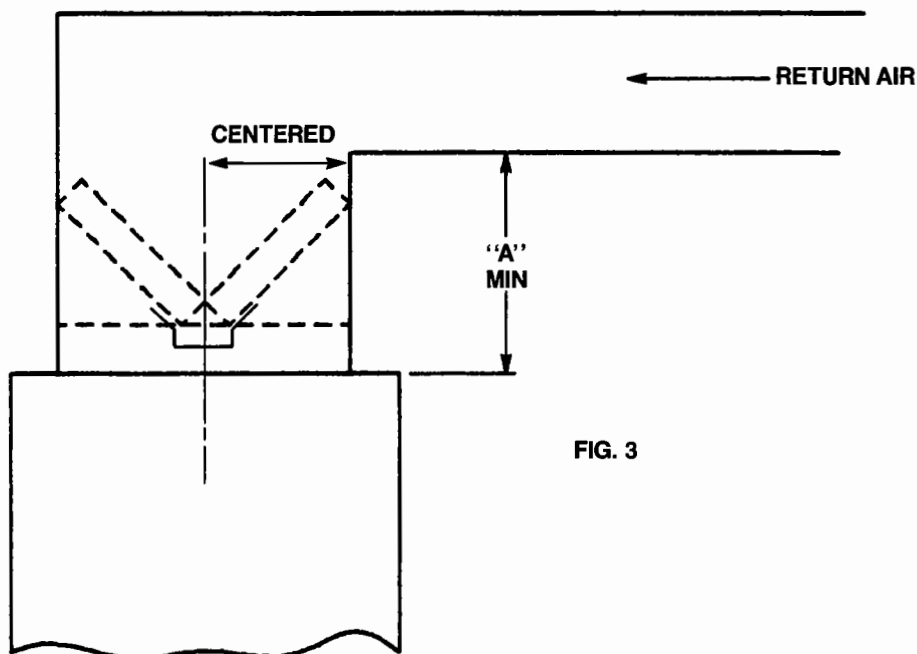

FIG. 3
2. Install the return air plenum on the furnace. For proper filter performance, the sides of the return air plenum must be sized to match the return air opening of the furnace and must meet or exceed the minimum height of dimension 'A' shown in Fig. 3. Secure the plenum and filter rack to the furnace so the filter rack cannot be dislodged from its proper position.